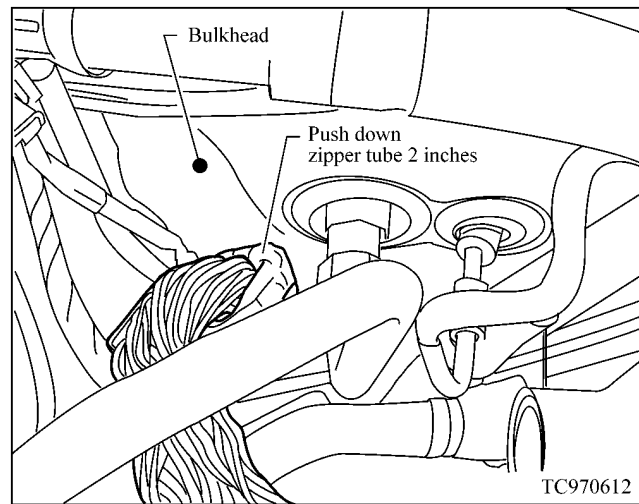

Figure 6
7. Push the zipper tube (near the bulkhead) down at least 2 inches to gain access to the wires (see Figure 6).